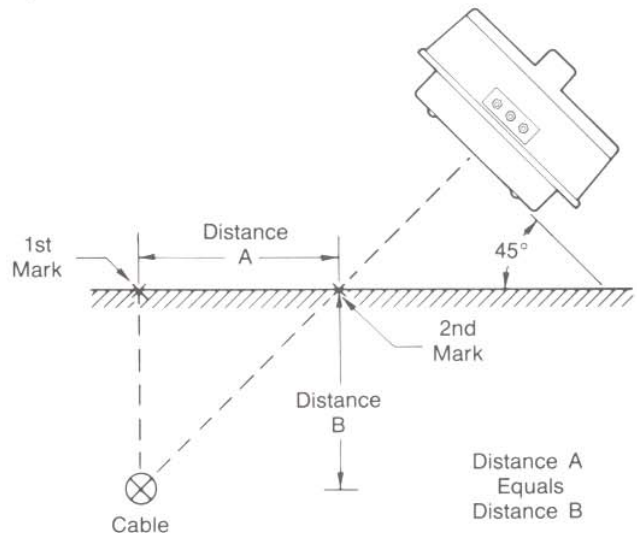

Fig. 25 — Determining Cable Depth - Triangulation
- 1) With the receiver in NULL mode, mark a point on the cable path (Fig. 25 [1]).
- 2) Hold the receiver so the handle is parallel to the cable path and tilt it so the bottom is at a  $45^\circ$  angle relative to the ground (Fig. 25 [2]).